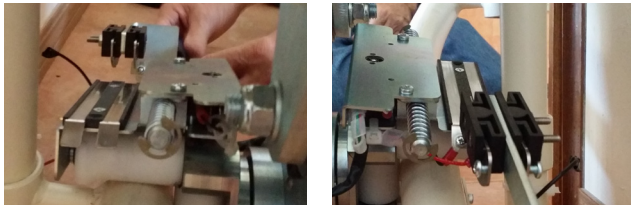

Figure 3-34
1. The spring loaded contacts should compress about $\frac{1}{4}$ ". *See Figure 3-34.*